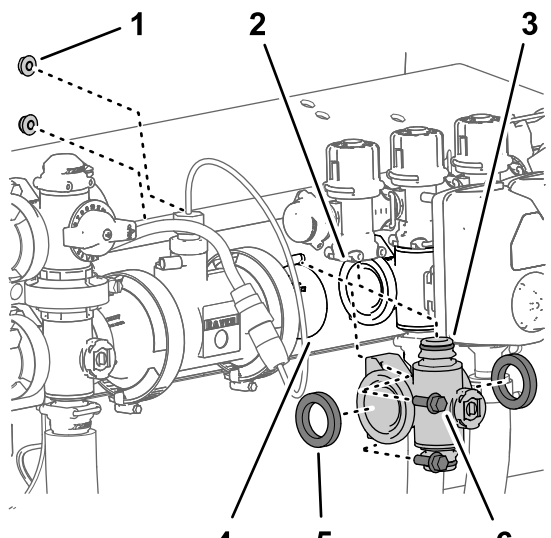

Figure 127
4. For left or right section-valve manifolds, remove the 2 flange-head bolts (1/4 x 3/4 inch) and 2 flange locknuts (1/4 inch) that secure the section-valve manifold to the valve support (Figure 127).
5. Move the section-valve manifold and gaskets down to clear the section-bypass valve and then away from the machine (Figure 127).